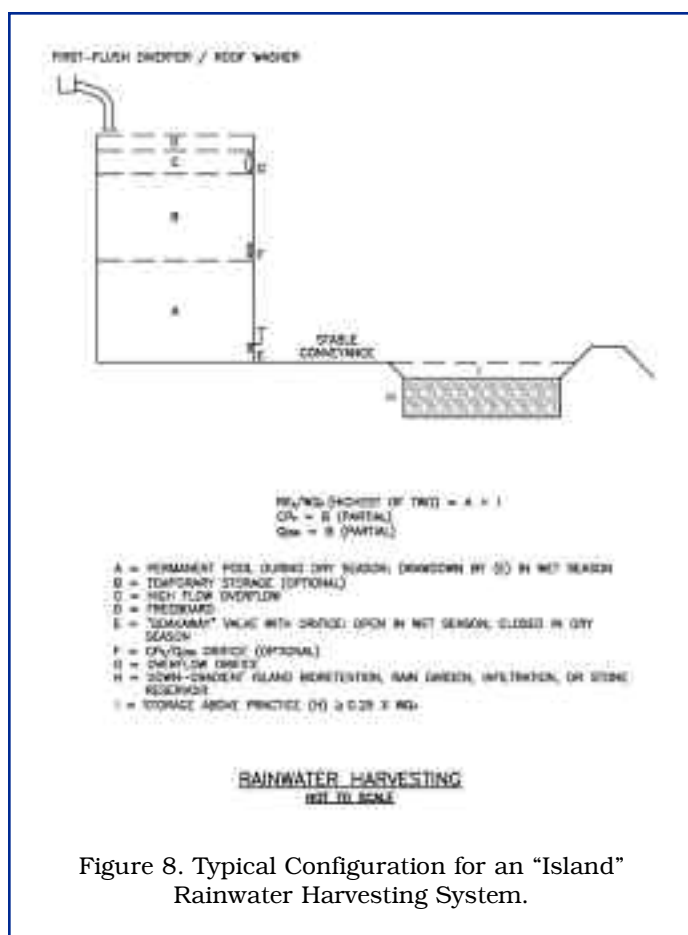

Figure 8. Typical Configuration for an "Island" Rainwater Harvesting System.
This type of system is recommended for CNMI, Guam, and other tropical environments to (1) reduce the volume of stormwater generated and (2) to relieve pressure on the potable water supply. This can be particularly relevant for Guam's northern aquifer region, where both recharge and reducing demand may be important objectives in light of increased demand for this resource. Rainwater harvesting (Figure 8) can be adapted to the wet season and dry season conditions by adding a "soak-away" valve to help drain the tank during the wet season and/or adjusting the indoor and outdoor uses of the water.